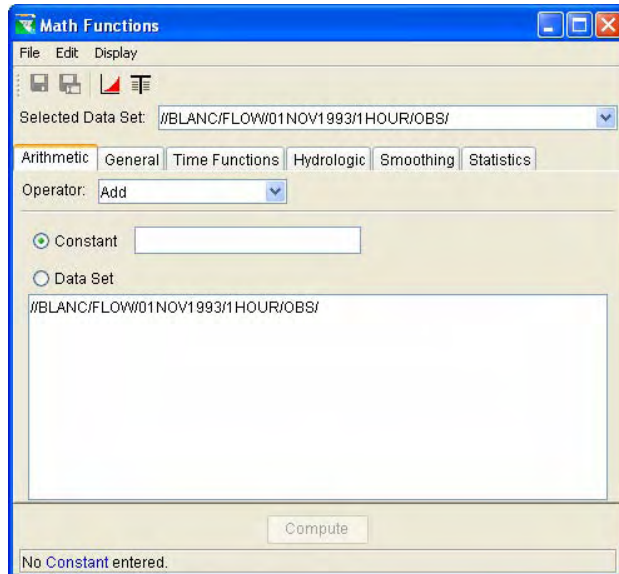

Figure E.11 HEC-DSSVue Math Functions Dialog Box
2. Choose **Math Functions** from the **Utilities** menu. A dialog box will appear, as shown in Figure E.11.